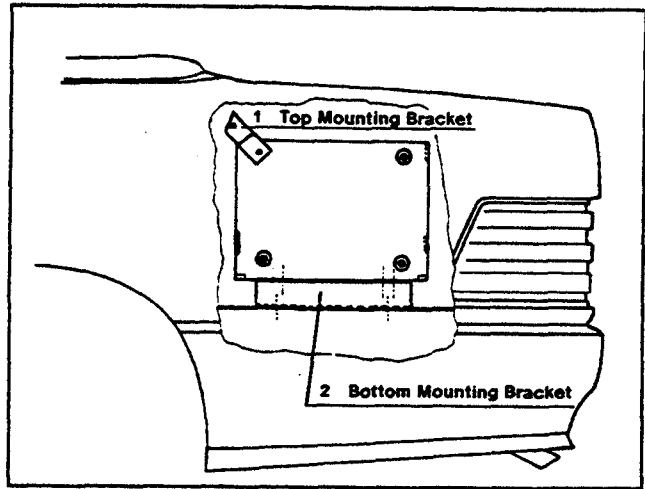

Figure 3
7. Position the top mounting bracket on the CD changer shell as shown in Figure 3 and fasten it with a 6x12 mm bolt.